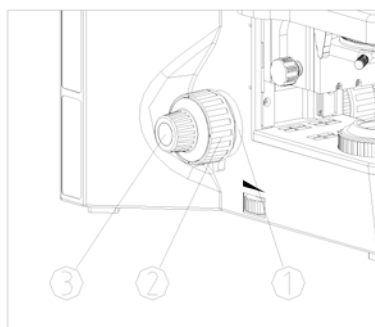

Fig. 13
- (1) Place slide on stage and rotate the 4X objective into the light path. (See Fig. 13)
- (2) Loosen the stage height lock screw if necessary ①. Rotate the coarse focus knob ② until the image is in focus and tighten the stage height lock ①.